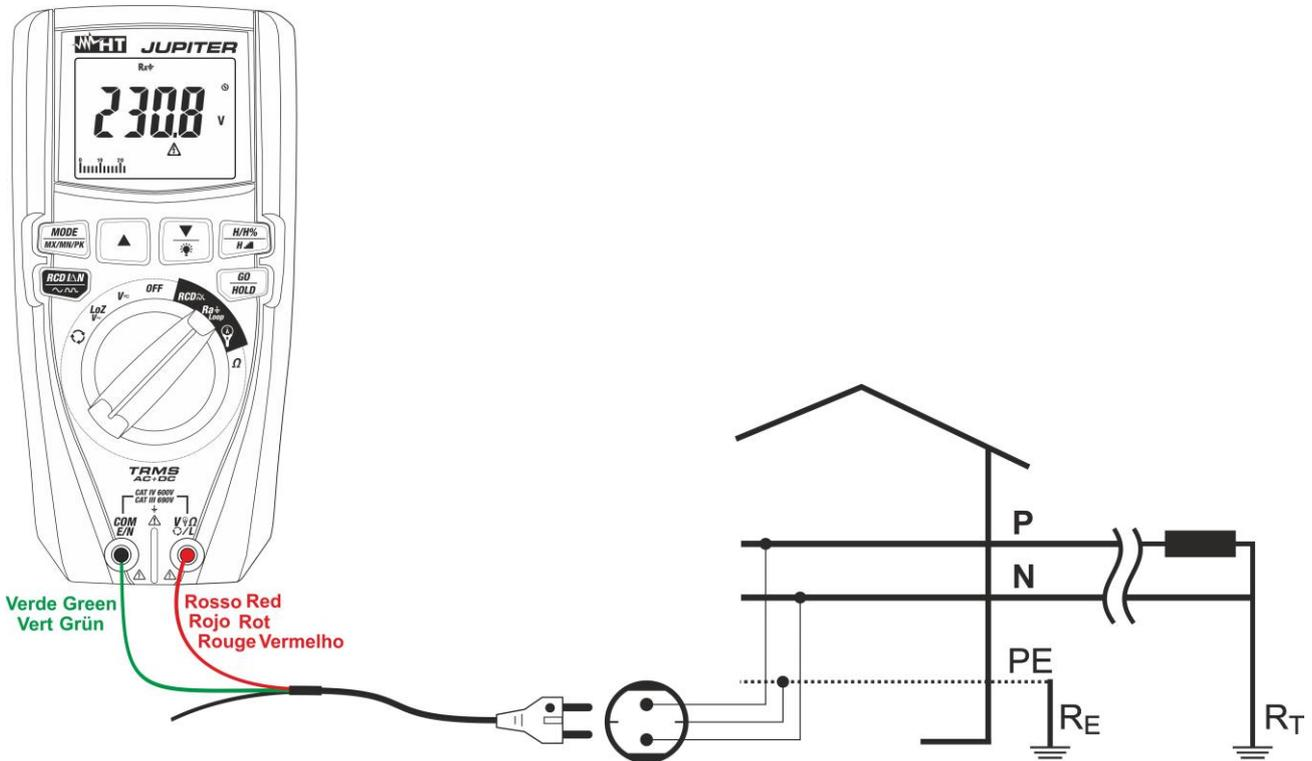

Fig. 23: Use of the instrument for measuring Loop L-PE impedance with cable provided with Schuko plug
5. **For Loop L-PE measurements**, in case the cable with Shuko plug is used, insert the red conductor into input terminal **V_{Ω/L}** and the green conductor into input terminal **COM/E/N** and connect the instrument to the system to be tested (see Fig. 23). The value of voltage Phase-Earth is shown on the display